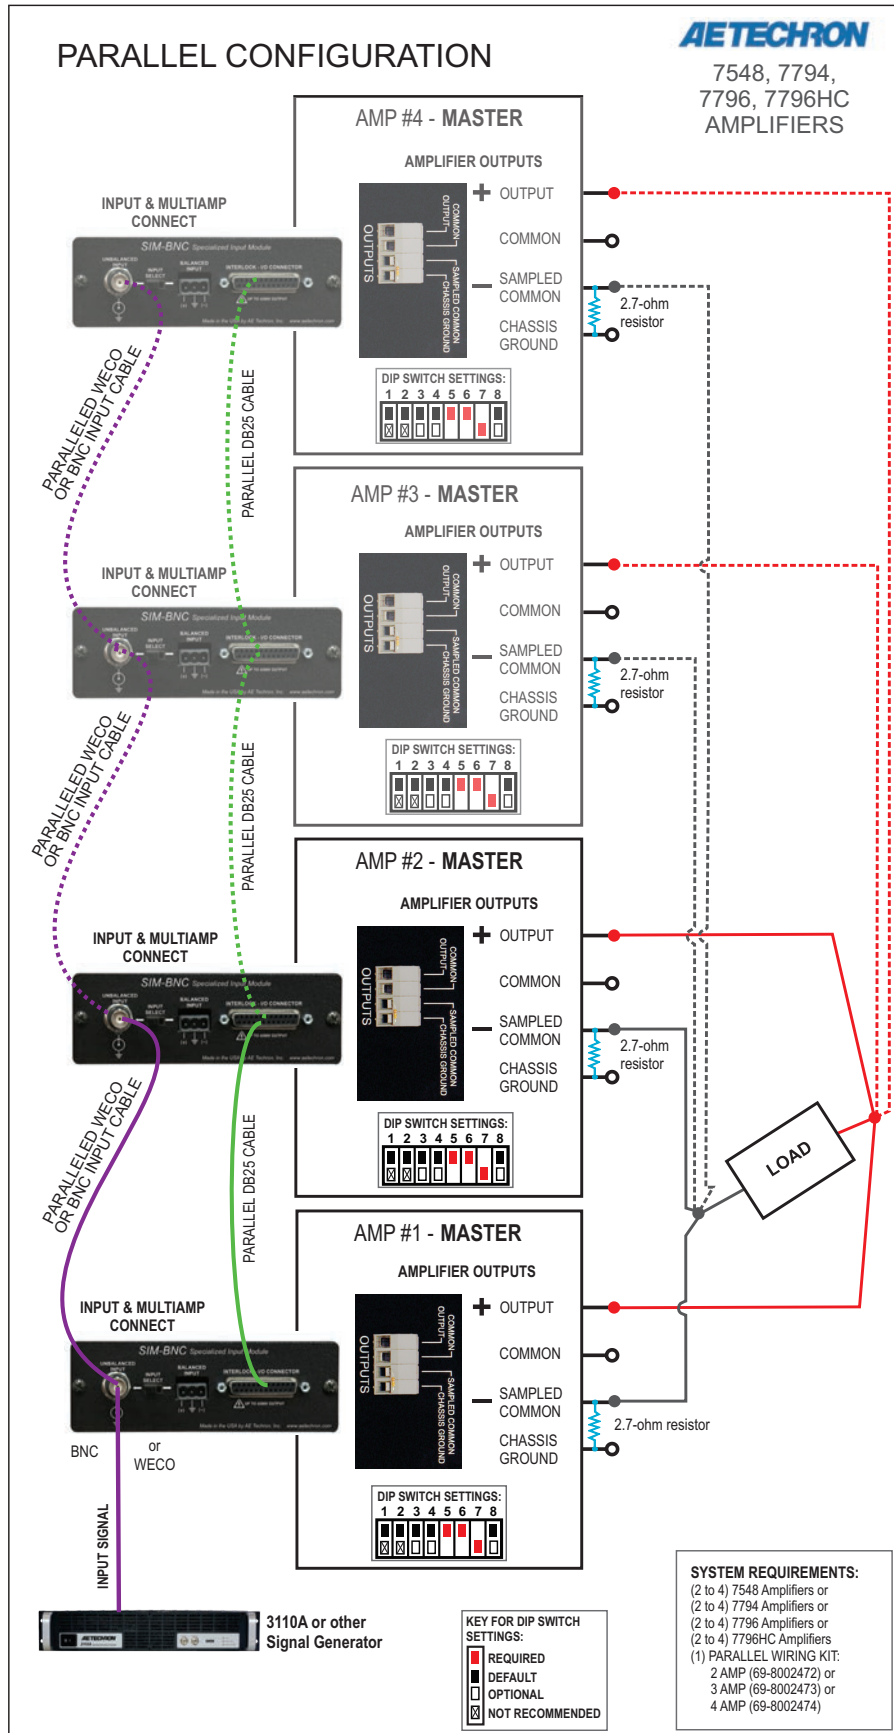

Figure 5.25 – System Configuration for Parallel Multi-amp Operation
3. Check to ensure that all system wiring has been correctly installed as shown in **Figure 5.25**.